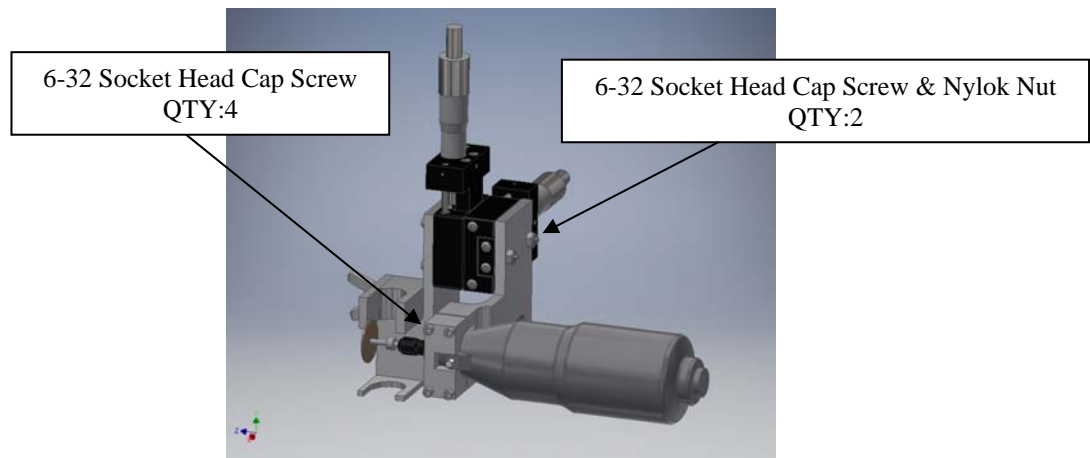

Figure 2 – Tool Support Bracket and Tool Mount
- 1.1.4. If a Thimble Tube Support is used, make sure the Tool Support labeled “FOR THIMBLE TUBE” is installed. It is attached with two (2) 6-32 Socket Head Cap Screws and Nylon Lock Nuts as shown in Figure 2.
- 1.1.5. If a 5/8" or 3/4" Tube Support is used, make sure the Tool Support labeled "FOR 5/8 AND 3/4 DIA" is installed. It is attached with two (2) 6-32 Socket Head Cap Screws and Nylon Lock Nuts as shown in Figure 2.
- 1.2.1. Clamp Dremel Tool to Tool Mount using four (4) 6-32 Socket Head Cap Screws as shown in Figure 2.